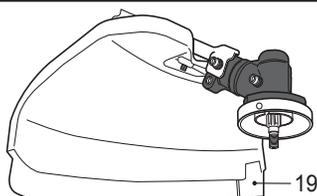

FIG. 19
2. The safety guard (19) is equipped with a knife (20) that cuts the trimming line (39) if required (Fig. 19).